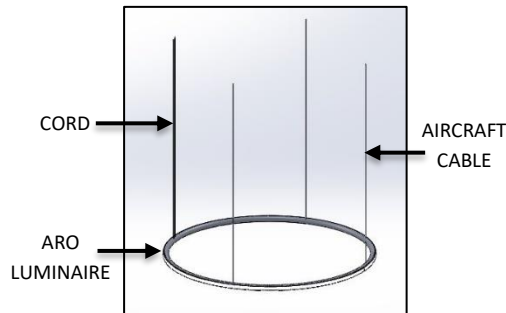

FIG. 2 - ARO LUMINAIRE
1. ARO LUMINAIRE with CORD and AIRCRAFT CABLE attached. (Pre-assembled as shown in FIG. 2)